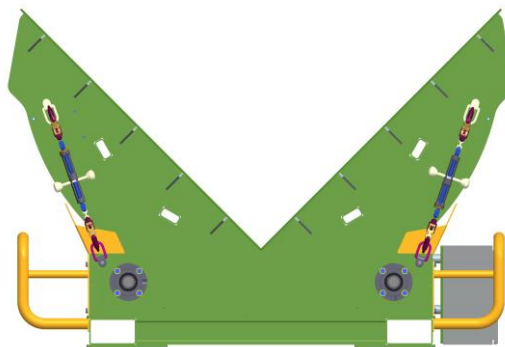

Figure 4
- For maintenance and cleaning, move the TECDOS TM to its middle position and use suitable lashings (e.g. RUD ICE-VSK with ICE fork-head ratchet chain tensioner) to secure it mechanically. Attach the lashing chains to ensure that the TECDOS TM is properly secured and cannot move in any direction (see Figure 4).